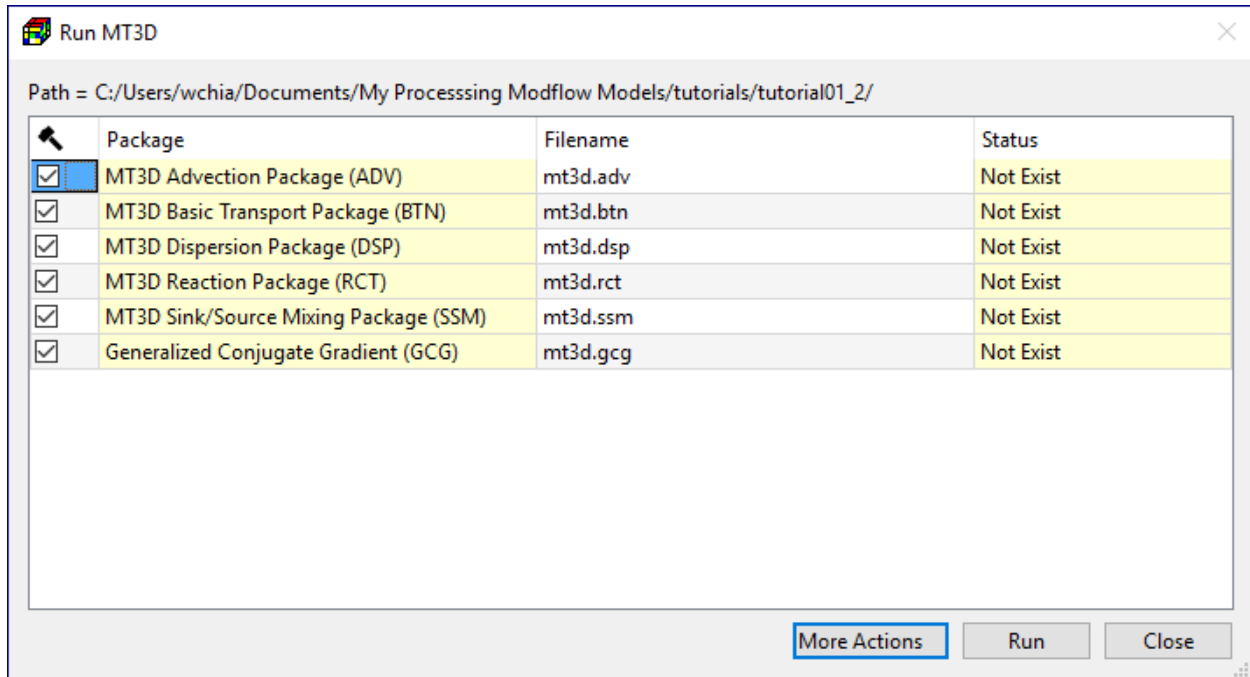

Figure 24. The Run MT3D dialog box
1. Select Models > MT3D/SEAWAT > Run to display the Run MT3D dialog box (Figure 24).